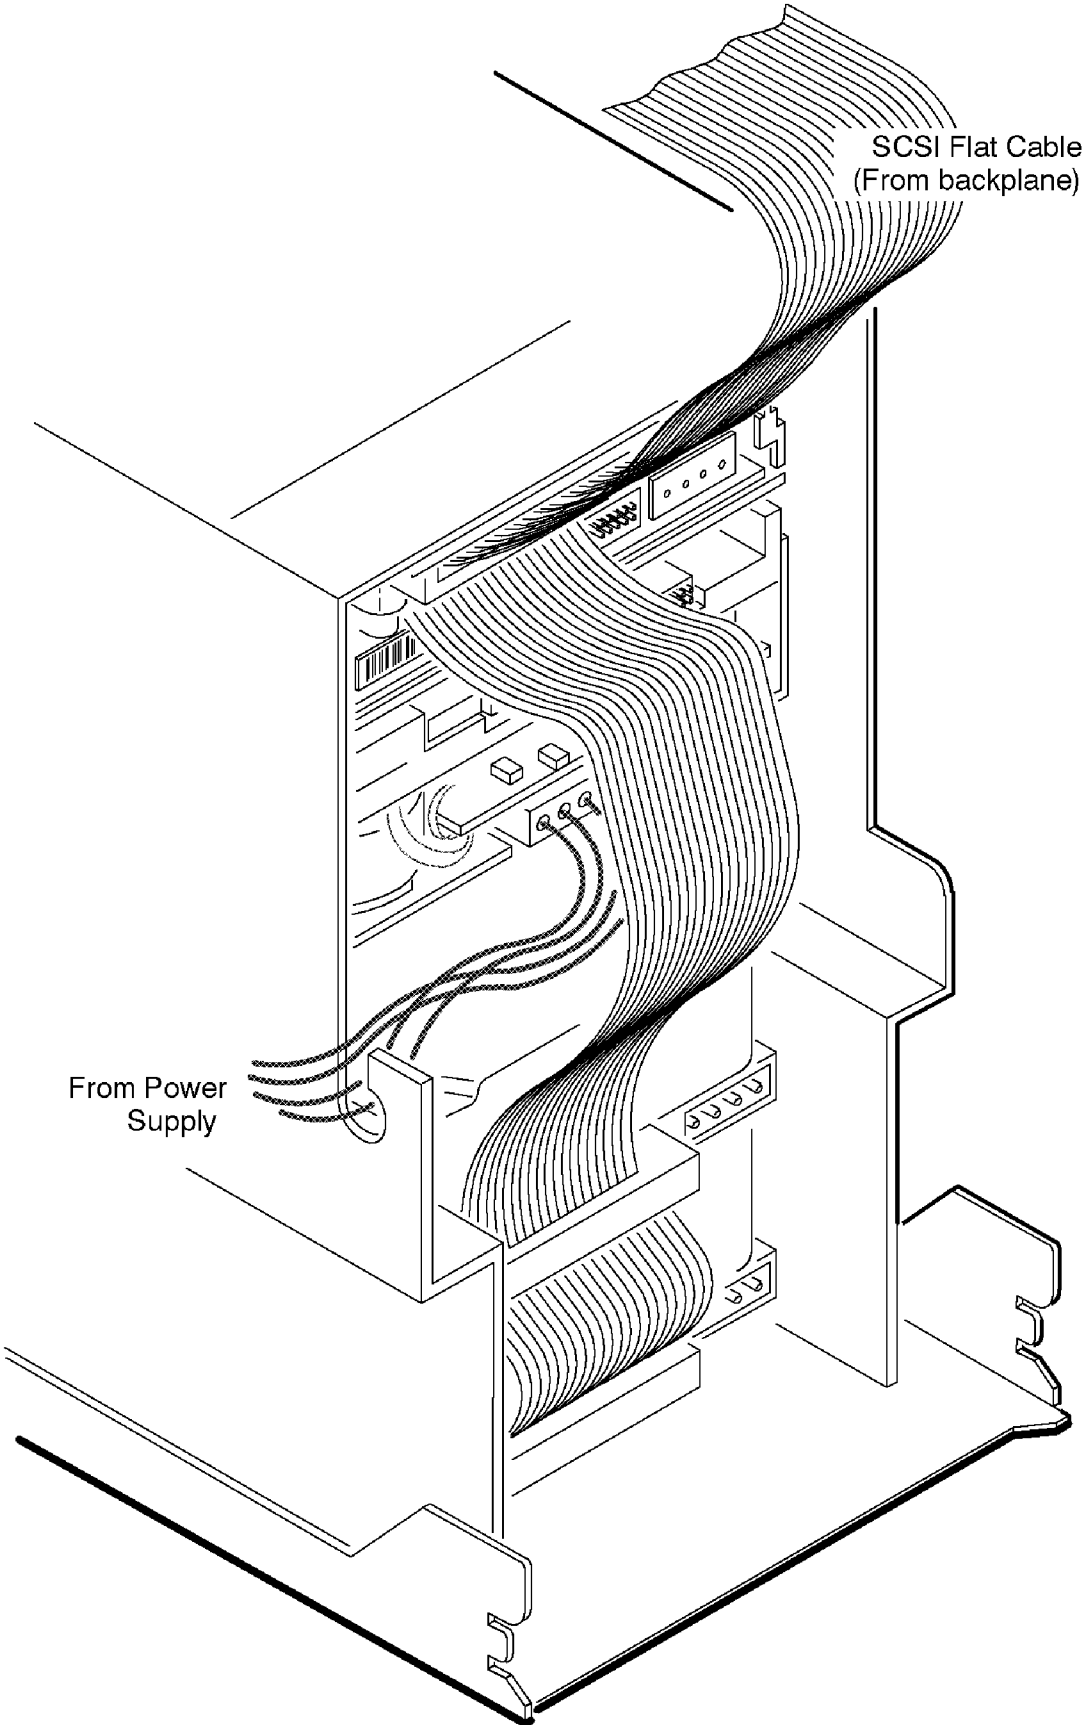

Figure 8-14. Internal Disk Cabling
5. See Figure 8-14.
1. See Figure 8-14.